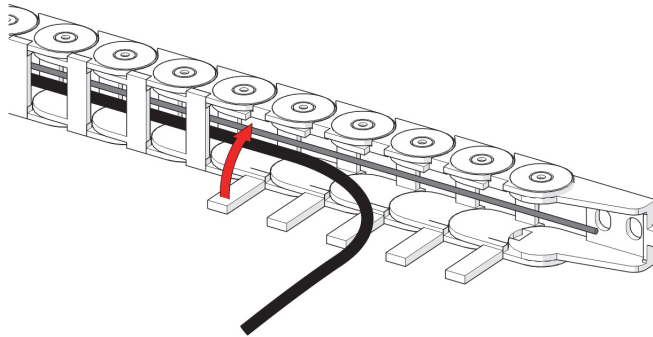

Figure 2-31 Route cabling and close flaps
2. Route all hoses and cables into the cable tray, and then clip the flaps to trap the cables in the cable tray (see Figure 2-31 on page 69).